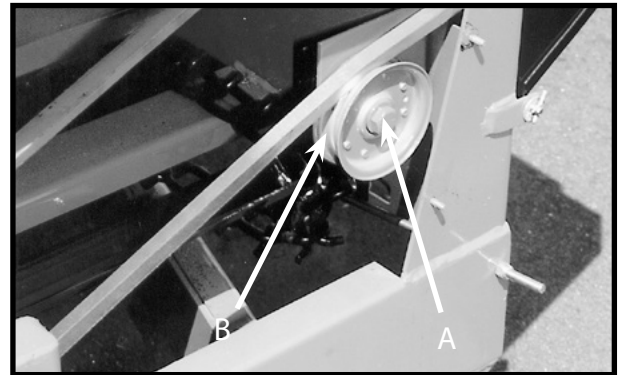

Figure 19-1
The belt tension is adjusted by loosening the nut that holds the idler pulley (A) Figure 19-1, slide the idler pulley (B) in the direction that tightens the belt until there is about 1" of deflection on a straight line midway between the drive sheaves.